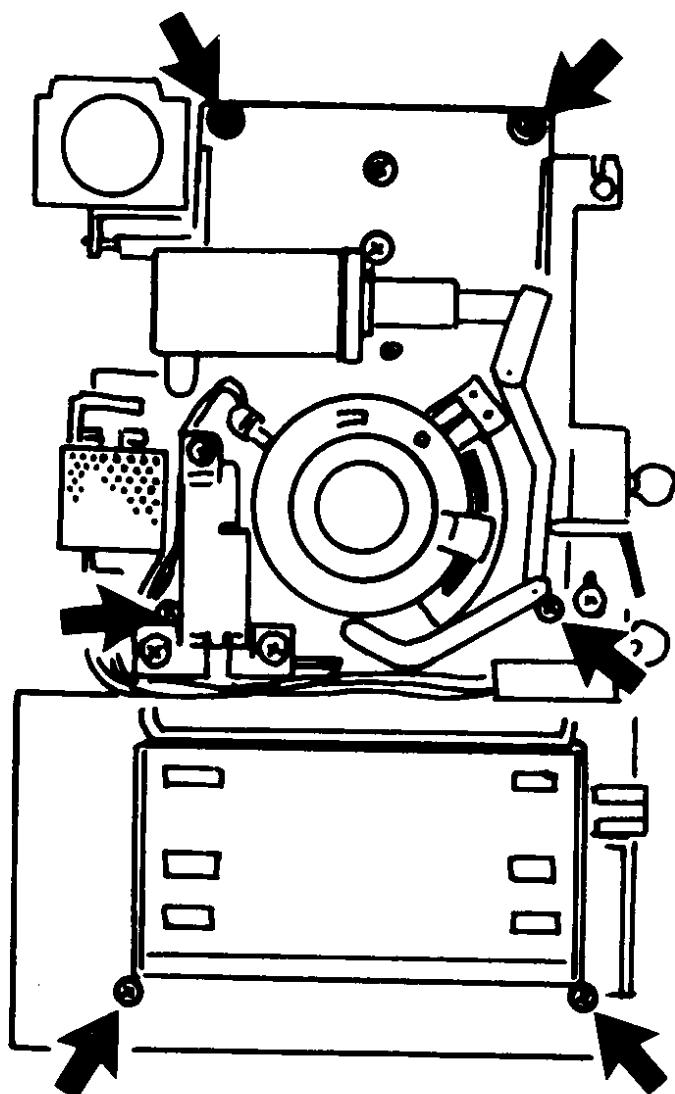

Figure 4-29 Removing Baseblock from Main Frame
- 1.2 Remove six screws holding Baseblock to Main Frame, exposing Data Flashtubes on opposite side of Baseblock. (Fig. 4-29)